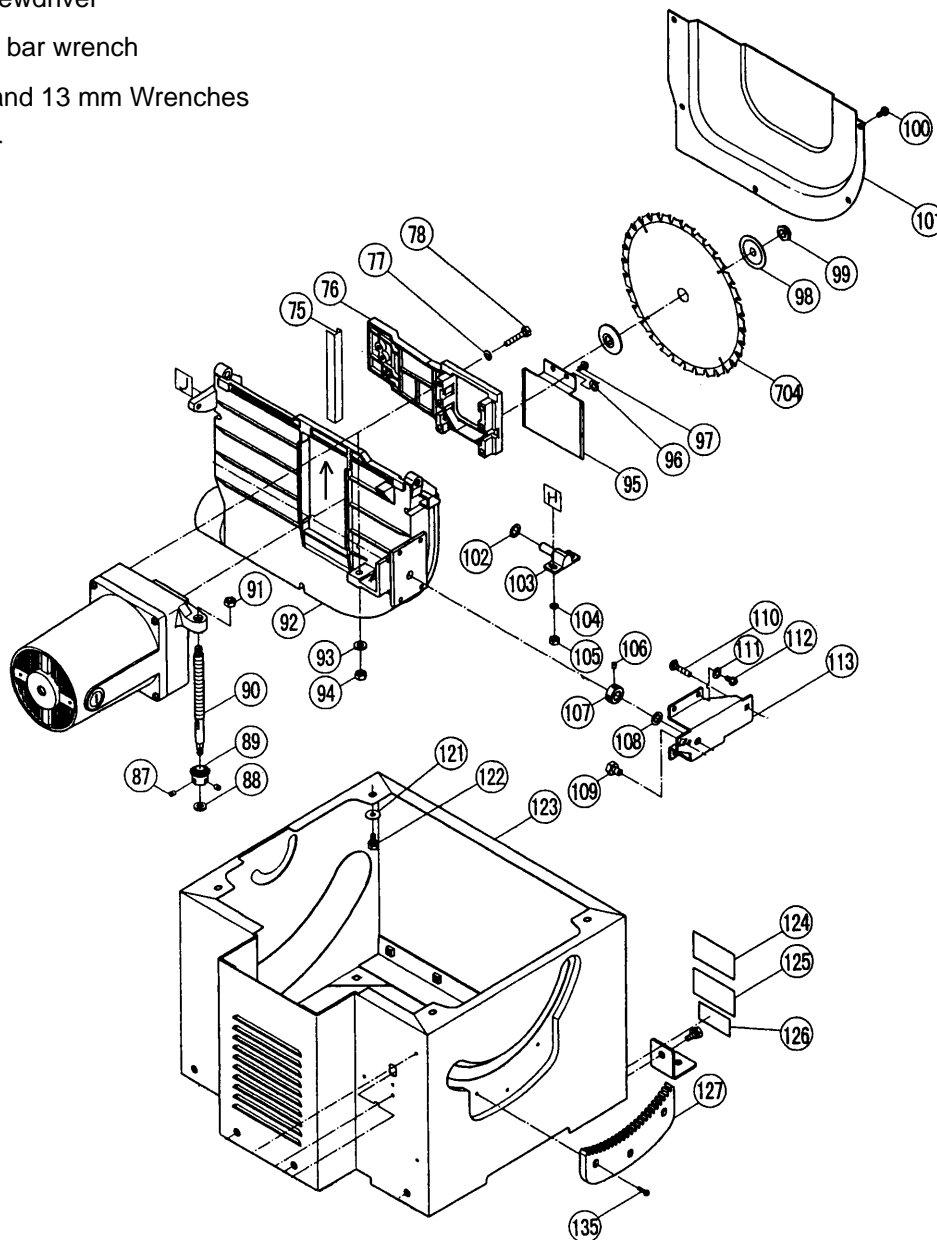

Fig. 26
- (1) Remove the four M6 Nuts **[105]** using a 10 mm wrench, and remove the Body **[92]** from the Table **[67]**.
- (2) Remove the four M6 x 12 Machine Screws **[112]**, and remove the Bracket **[113]**.
- (3) Remove the five D5 x 10 Tapping Screws **[100]**, and remove the Blade Guard **[101]**.
- (4) Remove the M6 x 12 Machine Screw **[97]**, and remove the Guard **[95]**.
- (5) Hold the Screw Bar **[90]** using an 8 mm wrench, and remove the M6 Special Nut Chuck **[94]** with a 10 mm wrench.
- (6) Slide the Bracket **[211]** upward (in the direction of the arrow in Fig. 26) and loosen the two M6 x 6 Hex. Socket Set Screws **[87]**. Remove the M8 x 14.3 Flat Washer **[88]** and Bevel Gear (B) **[89]** from the Screw Bar **[90]**.
- (7) Remove the four M6 x 35 Bolts **[78]** using a 10 mm wrench, and remove the Slide Bracket **[76]** and Bracket **[211]**.